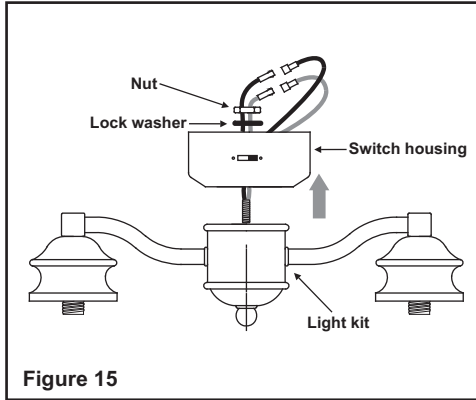

Figure 15
1. Attach the light kit to the switch housing by feeding the light kit wires (black and white) through the hole of switch housing and then screw it onto the switch housing by nut & lock washer. Be sure it is tight enough to prevent light kit from vibrating loose. (Fig. 15)